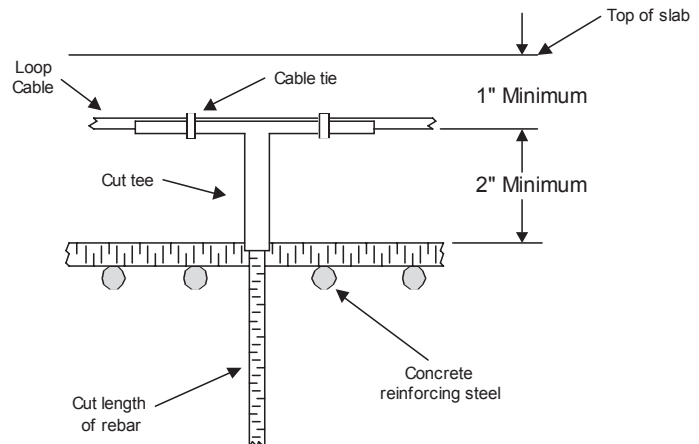

Figure 2
4. Use the tees, rebar, and nylon cable ties to hold the loop cable in place at least 2" above the concrete reinforcing steel. See Figure 2. The lead-in cable can be tied directly to the concrete reinforcing steel.
3. If the thickness of the concrete slab and/or the depth of the reinforcing steel below the top of the slab is such that the minimum dimensions shown in Figure 2 cannot be achieved, contact Technical Support at Reno A & E for guidance.